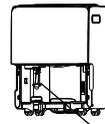
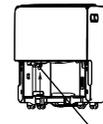

Fig. 7 Pump hose drops
Fig. 8 Reinstall pump hose properly
- If the pump hose drops when you remove the bucket (see Fig.7), you must reinstall the pump hose properly to the unit before replace the bucket into the unit (see Fig.8).